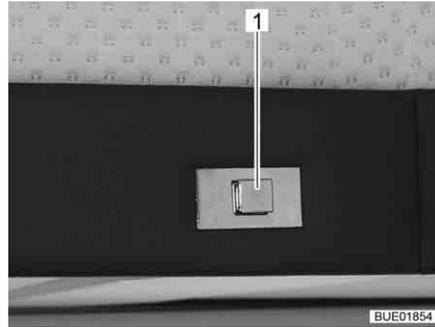
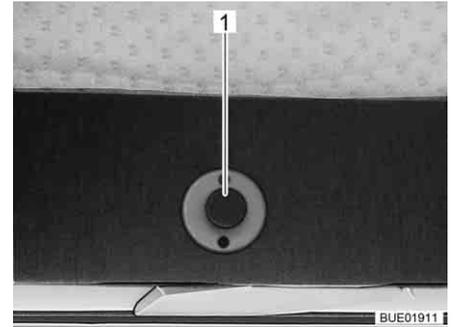

Fig. 78 Release knob
Fig. 79 Release knob (alternative)
- Press the release knob (Fig. 78,1 or Fig. 79,1) and hold it.